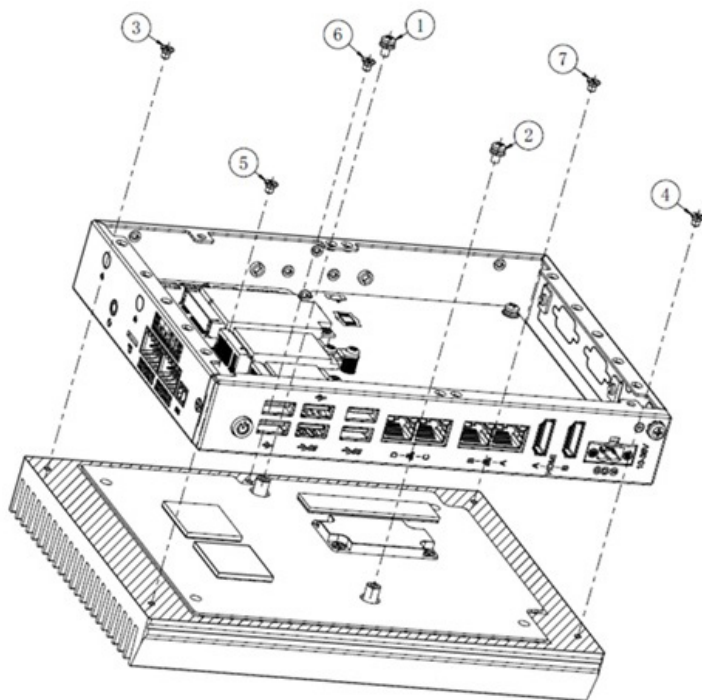

Figure 3.1-2 Disassembly Schematic Diagram
2. Remove four M3x4 screws of the corner, disassembly schematic diagram as shown in Figure 3.1-2.